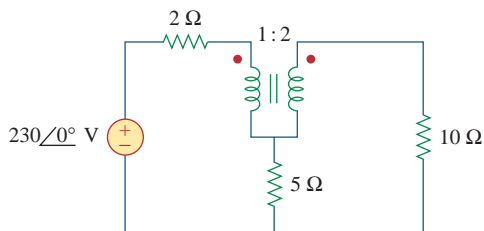

Figure 13.121
13.56 Find the power absorbed by the $10\text{-}\Omega$ resistor in the ideal transformer circuit of Fig. 13.121.